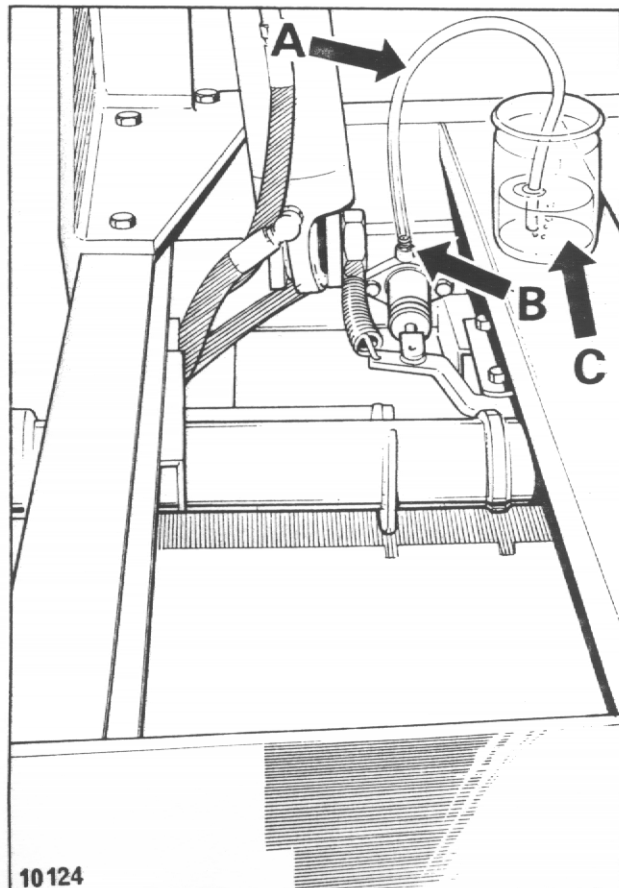

FIG 11
3. Attach bleeder tube (A) (See Fig. 11) to the bleed screw (B) on the slave cylinder, immerse the other end of the tube in a small quantity of brake fluid contained in a glass jar (C). Slacken bleed screw and operate brake pedal up and down to its full stroke until fluid pumped into the jar contains no air bubbles. Hold pedal down and close bleed screw. Remove bleeder tube and release pedal.